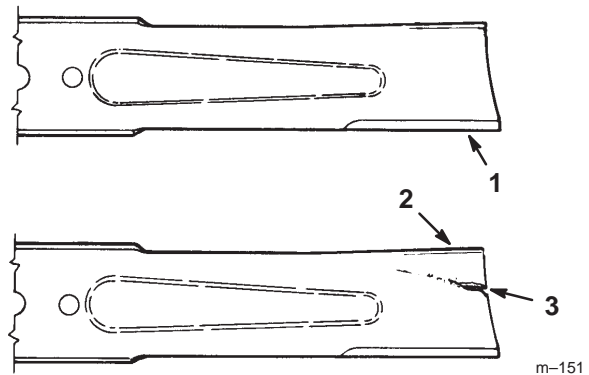

Figure 30
1. Inspect the cutting edges (Fig 30). If the edges are not sharp or have nicks, remove and sharpen the blades. Refer to Sharpening the Blades on page 31.
2. Inspect the blades, especially the curved area (Fig. 30). If you notice any damage, wear, or a slot forming in this area (item 3 in Fig. 30), immediately install a new blade.